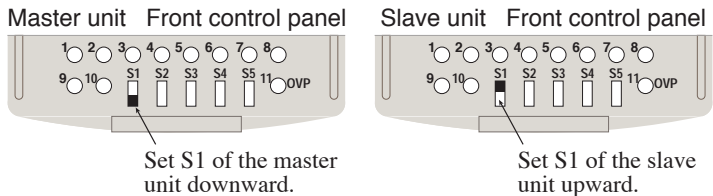

Fig.4-17 Presetting of control switches for master-slave-control series operation
5. Set the control switch S1 of the master unit and slave units to the positions shown in Fig.4-17.